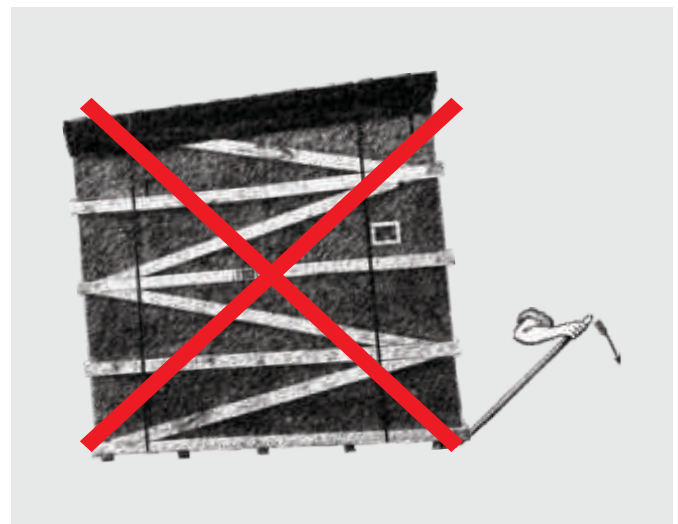

Figure 11 - Chain marks on packed TUs
- Center of gravity indicators and chain marks are provided on the TU as shown in Figure 11.